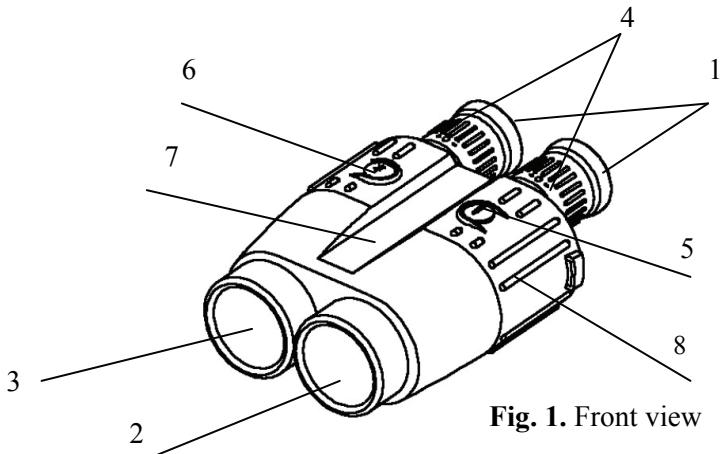

Fig. 1. Front view
The LRB 6000CI operational procedures are design to allow the user to use most applicable options in the fastest time possible. To activate it, press and hold Action button (6, Fig.1) for one second. At start the unit comes into Ready to Measure mode indicated by the word ‘READY’ on the display visible through the eyepiece.
Pressing Action button (6, Fig. 1) again will initiate measurement procedure. The results of measurement are displayed in default form of “Distance (M), Azimuth (mils) and Elevation (mils)” measurement parameters also can be modified to user preference (see Setup Mode).
Pressing Mode button (5, Fig. 1) gives the user the options to change settings from Factory default to specific modes required by user. For full list of Mode options please refer to Operation and Service modes